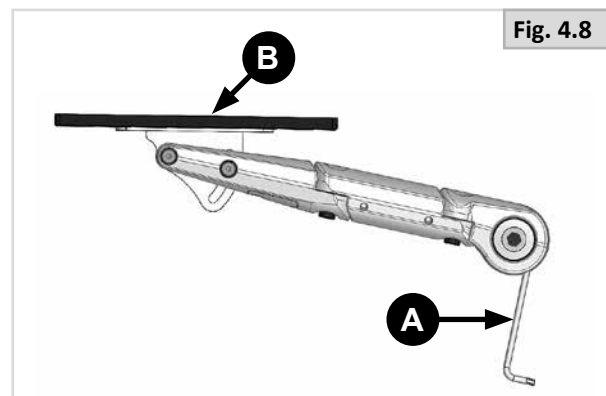

Fig. 4.8
Part 1 (Fig. 4.8)
2. Loosen (A) in order to adjust (B).
3. Retighten the screws (A in Fig. 4.8) with a torque of 30Nm.